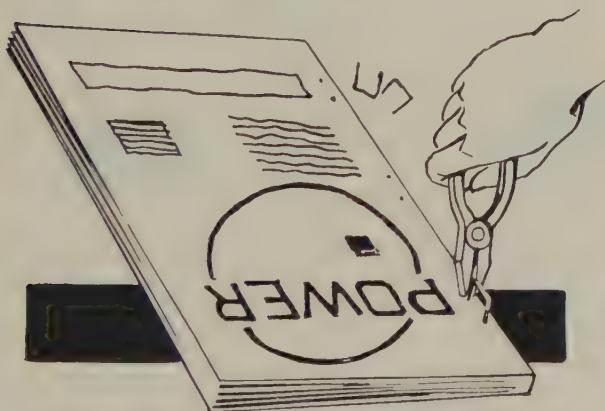

FIG. 151—SOLID SIDE OF STAPLES
- and forth gradually pull staples out of book. (Fig. 151.)